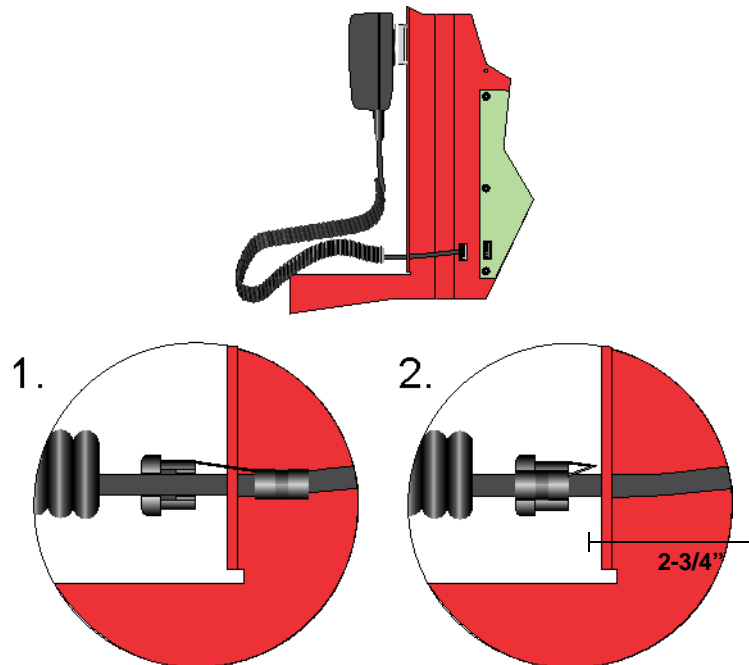

Figure 4-56 Installing Strain Relief Clip
3. Attach strain relief clip to microphone cord. The strain relief clip should have about 2-3/4" of microphone cord through it. See Figure 4-56.